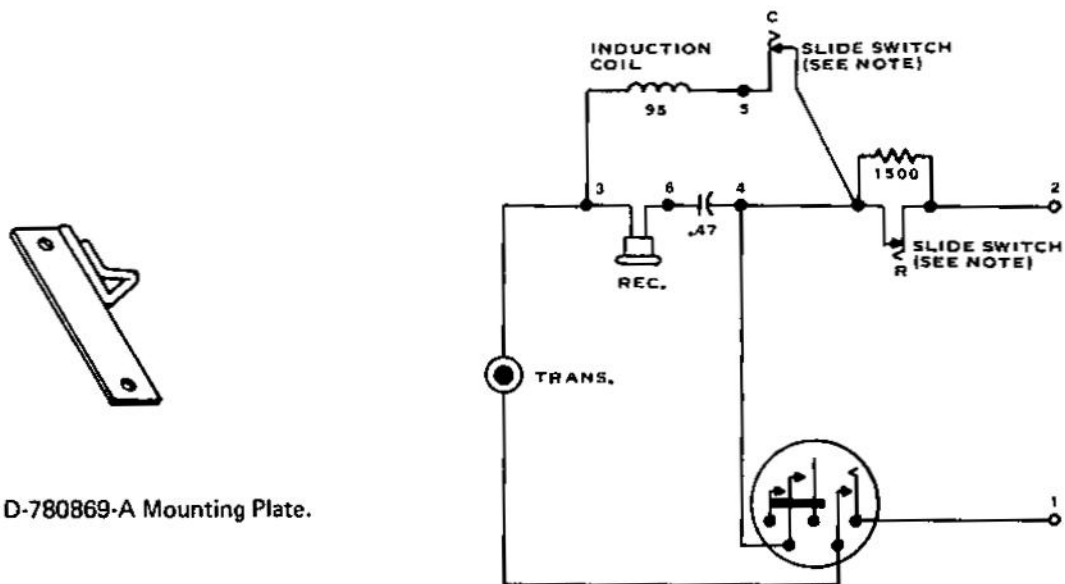

Figure 5. D-780869-A Mounting Plate.
2.05 A formed-wire belt clip is attached behind the transmitter of the hand test telephone to simplify its being carried by field personnel. When the set is in use, the clip may be retracted against the handset handle where it snaps over the head of a thread-cutting screw mounted near the transmitter end. For central office use the clip may be detached from the set, which can then be suspended from the hole in a housing web from which the clip was removed. Mounting plate D-780869-A (Figure 5) is available separately for attachment to distributing frames or switching equipment support structures and provides a hook for such indoor storage.